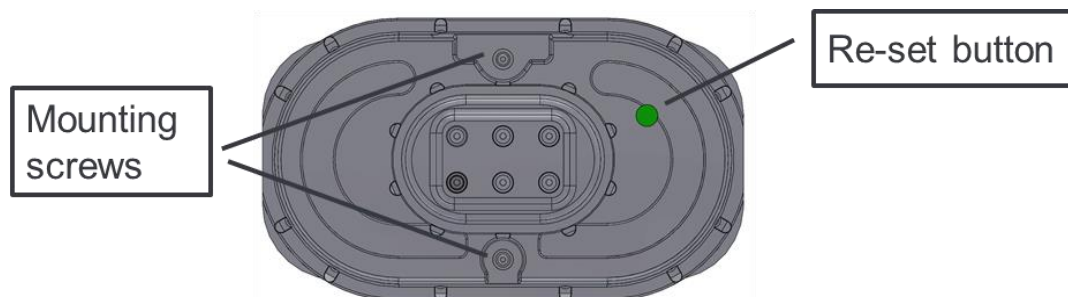

Figure 5-2: Battery pack bottom view
- Loosen the two battery pack mounting screws, see Figure 5-2. Note that the spring force is high, have therefore a firm grip around the pack while unscrewing.
- Press the button on the pack, see Figure 5-2. This will indicate to the gas detector that fresh batteries are in place and re-set the charge counter. Note that only gas detectors with firmware 3.0 or later will recognize this button operation. Please contact GasSecure should the detector in question contain an older firmware version or should you be uncertain about the firmware of this detector.